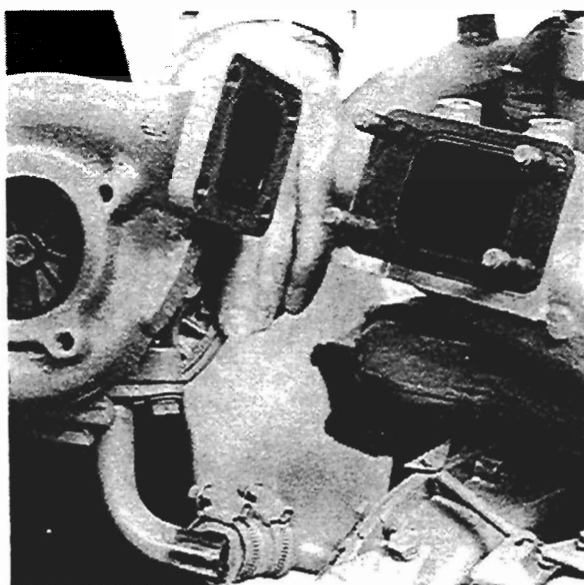

Fig. T2
5. Remove turbocharger from exhaust manifold, (see fig. T2).